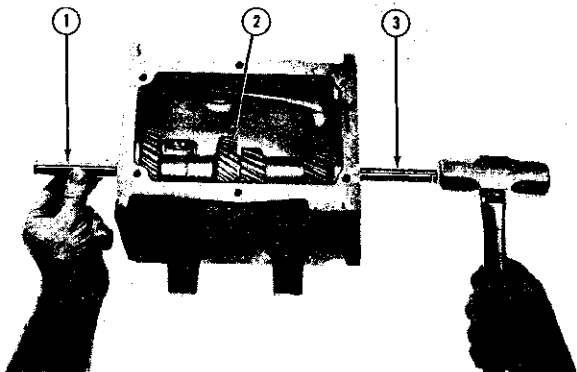

FIG. J-20—REMOVING-INSTALLING COUNTERSHAFT
- j. Using Tool W-335, drive the countershaft rearward, out of the case, as shown in Fig. J-20. The countershaft gear assembly will drop to the bottom of the case. Using Tool W-335 will ensure that the roller bearings will remain in the countershaft gear hub and may be removed as an assembly.